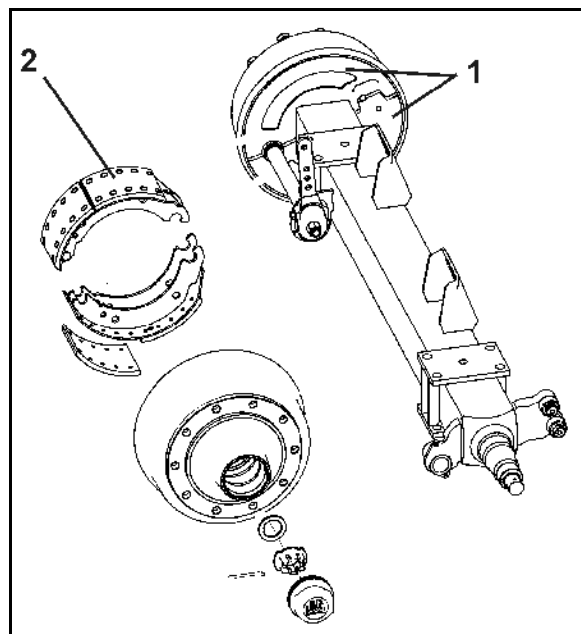

Fig. 130
1. Unscrew the two cover plates (Fig. 130/1) on the inside of the brake drum.
Dirt entering the drums may be deposited on the brake pads (Fig. 130/2) and thus die appreciably reduce brake performance.